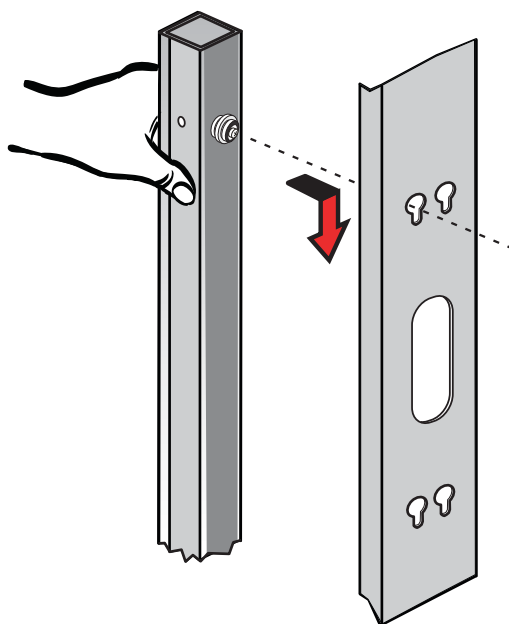

Figure 16. Securing the ePDU
5. Push down to secure the ePDU in position (see Figure 16).